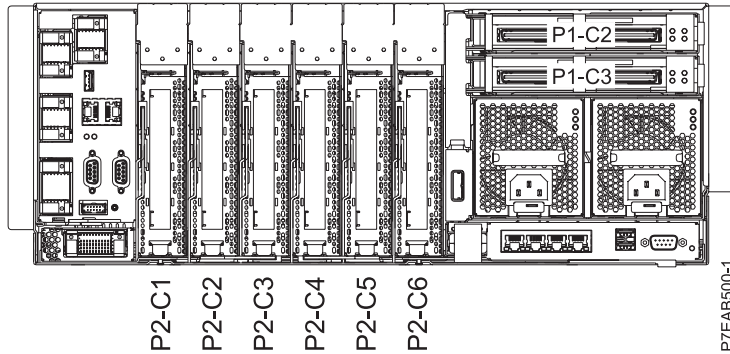

Figure 1. Rear view of the system with location codes
- The GX adapters are installed in GX++ slot P1-C2 or P1-C3, which is located on the system backplane. See Figure 1 on page 7 for the location of the GX adapter slots in the system.
- Feature code (FC) 1808 (GX++ 12X DDR Dual-port IB Adapter) is supported for the 17M/MB, 17M/MC, 17M/MD, 79M/HB, 79M/HC, or 79M/HD system.